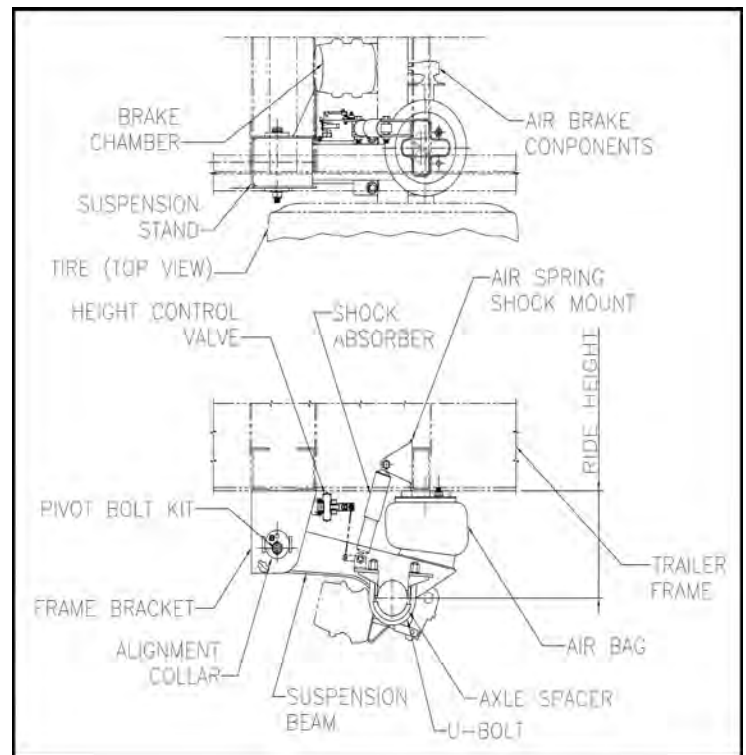

Figure 12
4.7 AIR-RIDE SUSPENSION (FIGURE 12)